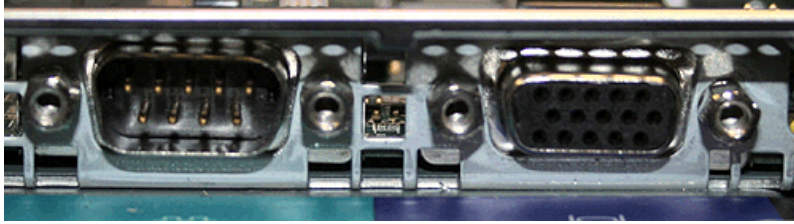

Figure 285. Serial and video ports on the SAN Volume Controller 2145-8G4
18. Remove the four stand-off screws from by the serial and video I/O ports at the rear of the node. Figure 285 on page 283 shows the location of the stand-off screws.